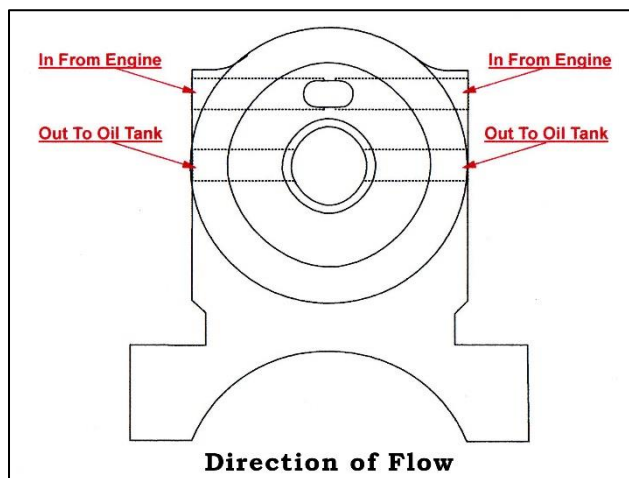

FIG. 4
- 7- Measure and install supplied hoses. The flow direction in and out of the filter is critical. See Fig. 4.